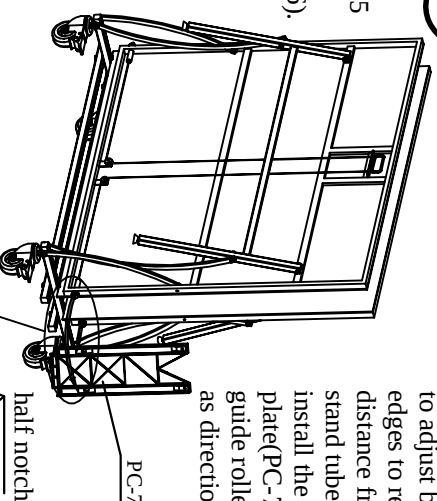

fig 7
STEP 7: Using two adults to adjust both table tops to reach out 80mm edges to reach out 80mm distance from the wheel stand tube(PC-1). Then install the plastic side plate(PC-7) by aiming the guide roller at the half notch as direction of arrows(fig 7).